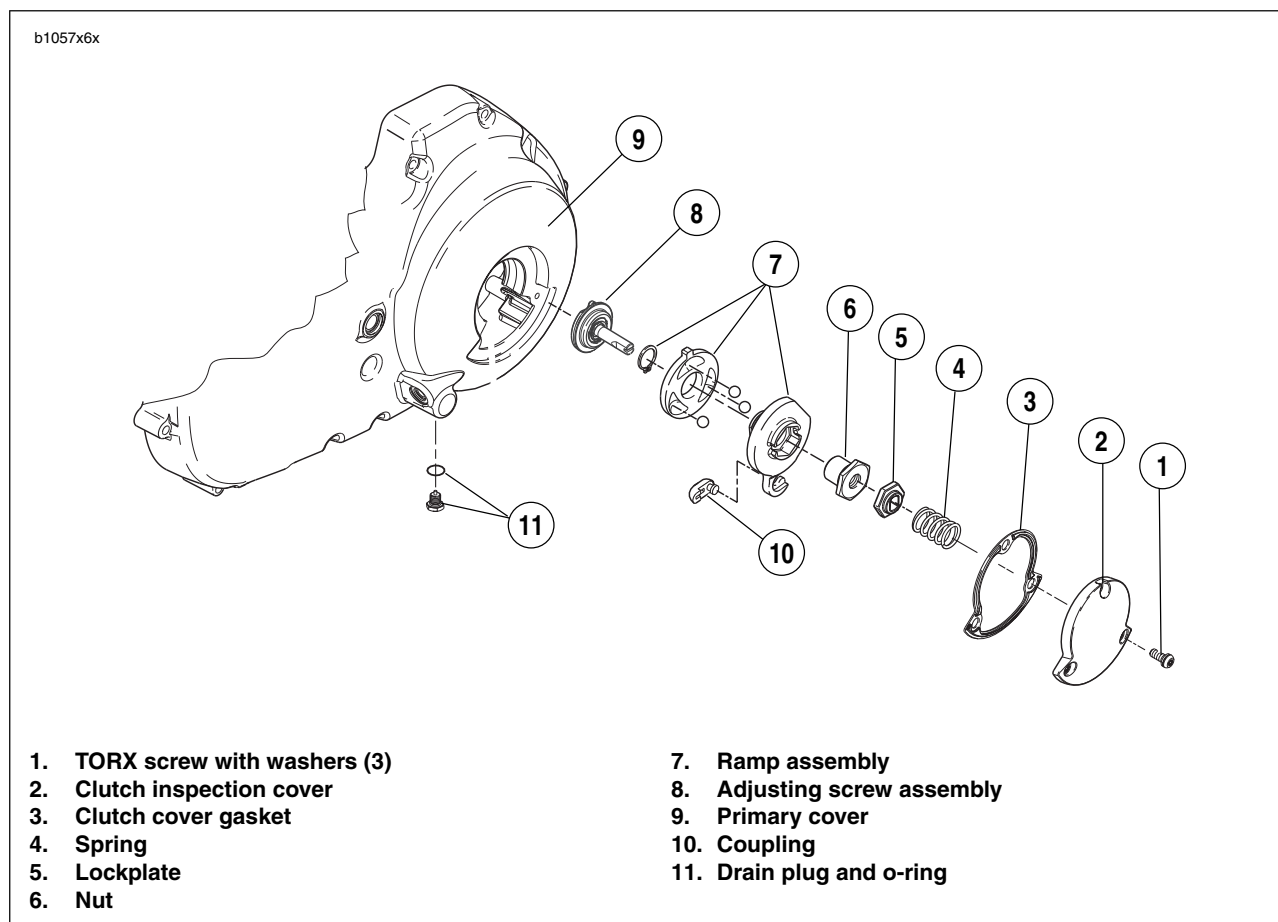

Figure 6-6. Clutch Release Mechanism
4. See Figure 6-6. Remove three TORX screws with washers and clutch inspection cover.
5. Slide spring (4) with attached screw lockplate (5) from flats of adjusting screw.
6. Turn adjusting screw clockwise to release ramp and coupling mechanism (7). As the adjusting screw is turned, ramp assembly moves forward. Unscrew nut (6) from end of adjusting screw.
7. Remove hook of ramp from cable end coupling (10). Remove cable end from slot in coupling.
2. See Figure 6-6. Inspect three balls of release mechanism and ball socket surfaces of inner and outer ramps for wear, pitting, surface breakdown and other damage. Replace parts as necessary.